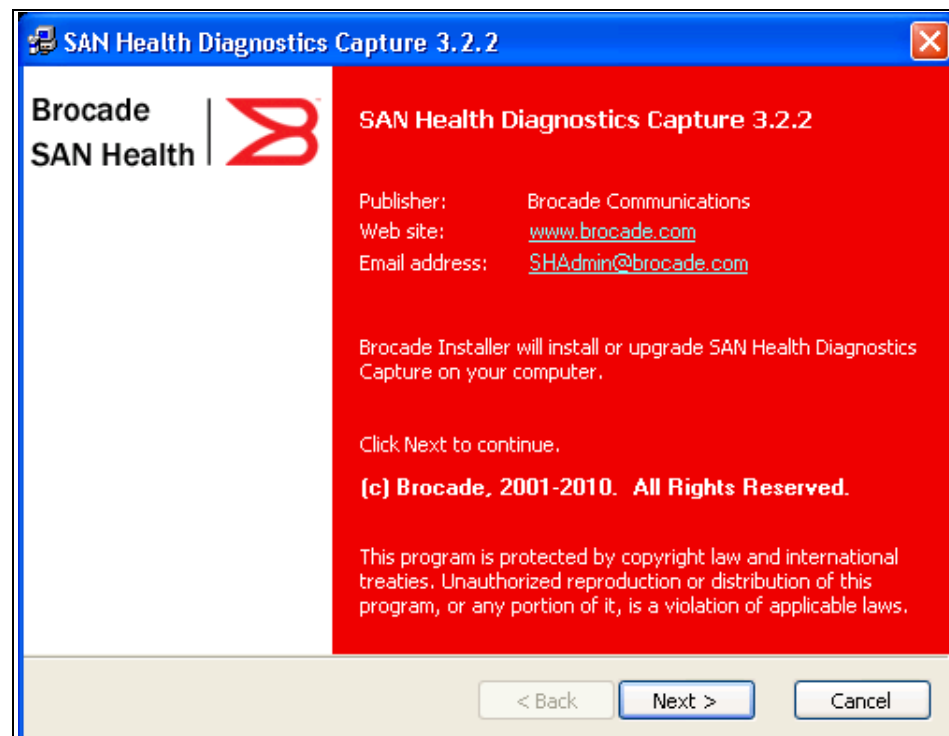

Figure 17-1 SAN Health Diagnostics Capture Installation panel
3. Follow the step-by-step instructions. Figure 17-1 shows the first step to install San Health. Click **Next**.